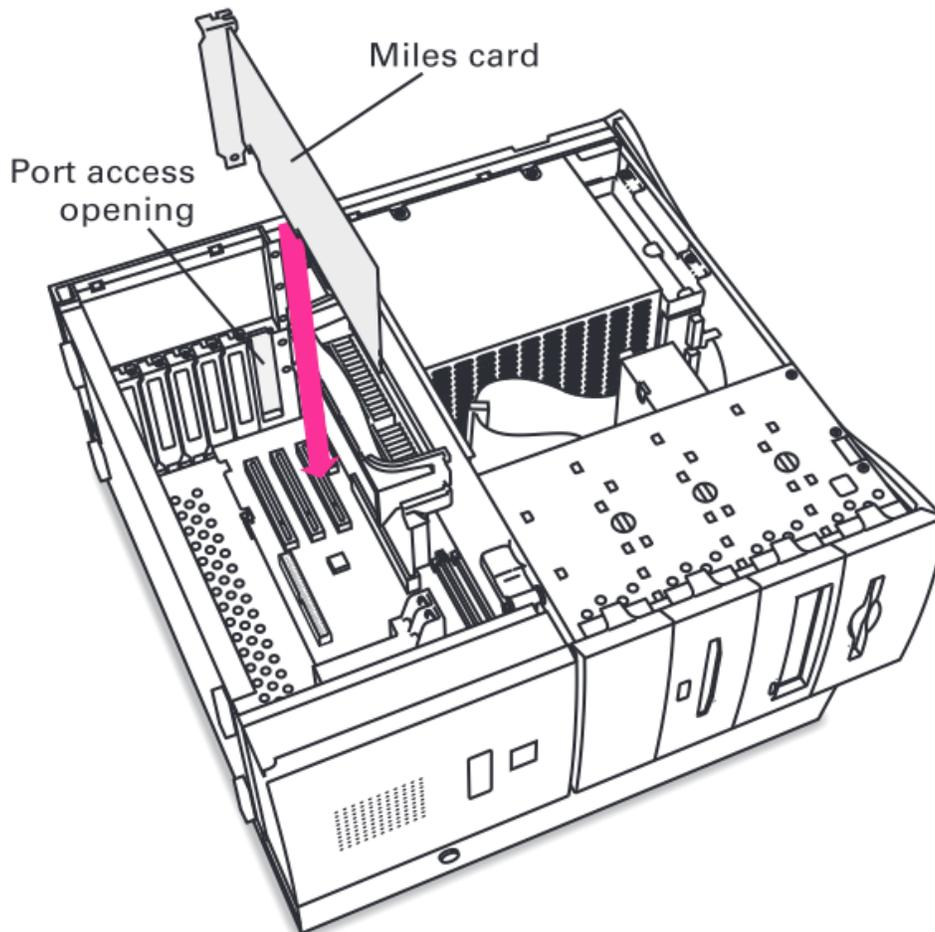

FIGURE 3— Tower-Model card installation
- 6 Orient the host adapter for installation so that the external connector is facing the back of the System unit and align the card with the PCI connector on the system unit (see FIGURE 3). Holding the adapter by the mounting bracket and the card edge, match up the card edge connector with the PCI host computer socket and insert the card into the socket. Once the connector is in the PCI expansion slot socket tighten the mounting bracket screw to secure the card in place.